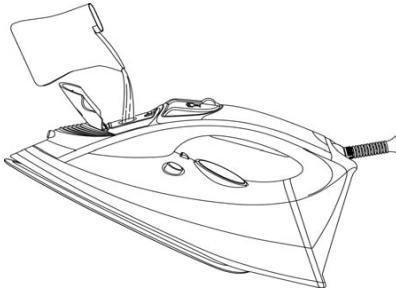

FIGURE 4
3. Open the water inlet cover as in Fig4.